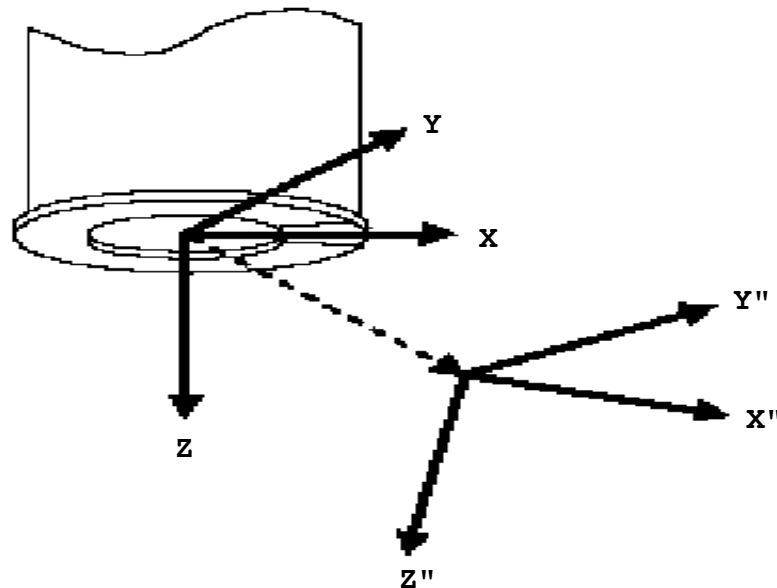

Figure 4-26. General Tool Offset
If a dispensing gun is attached at an angle with respect to the robot tool flange, and the gun deposits material along an axis that is not aligned with the normal tool Z-axis of the robot not parallel to the tool coordinate system (i.e., not perpendicular to the robot tool flange surface), the orientation offset might need to be measured as well. Typically, the orientation offset is not required if the dispensing path locations are taught manually. Figure 4-26 shows an example of a tool transformation that contains yaw, pitch, and roll components.
2. The pendant will prompt you to teach two robot locations along the tool's Z-axis (the Z-axis in Figure 4-26). Both locations must have the same orientation. Press the "REC/DONE" key to record the locations.
3. After both locations have been taught, you will be prompted to teach a location along the positive X-direction or the positive Y-direction of the tool (the X- or Y-axes of Figure 4-26 respectively). Again, the orientation of the tool should not be changed. Once the last location is taught, the yaw, pitch, and roll offsets are automatically calculated. Press the "QUIT" soft key to return to the top-level menu.